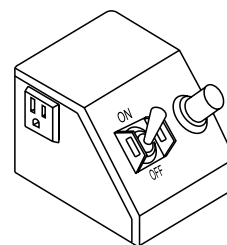

Figure 16. Power ON/OFF Switch (ON)
2. Turn the power ON/OFF switch (Figure 16) to the ON position with the blade away from the material to be cut, the cutting blade should begin to rotate. Before cutting remember to follow all safety rules referenced in this manual.